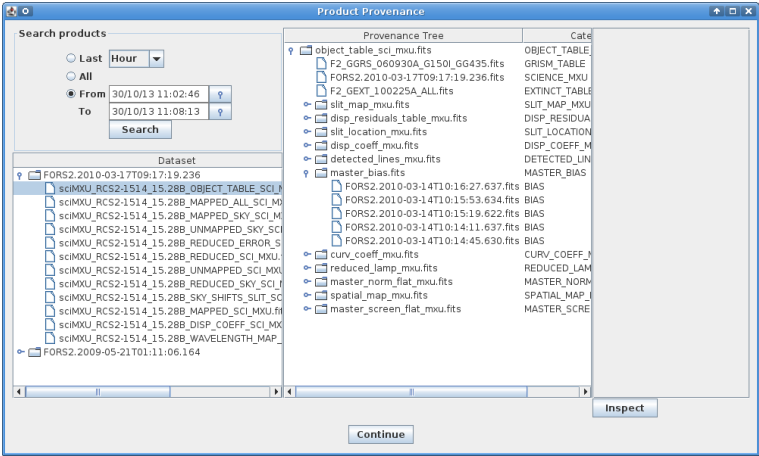

Figure 4.5: The Provenance Explorer shows all datasets reduced in previous executions together with the full reduction chain for all the pipeline products.
10. When the reduction of the current `DataSet` finishes, a pop-up window called *Product Explorer* will appear showing the datasets which have been so far reduced together with the list of final products. This actor allows the user to inspect the final data products, as well as to search and inspect the input data used to create any of the products of the workflow. Figure 4.5 shows the *Product Explorer* window.